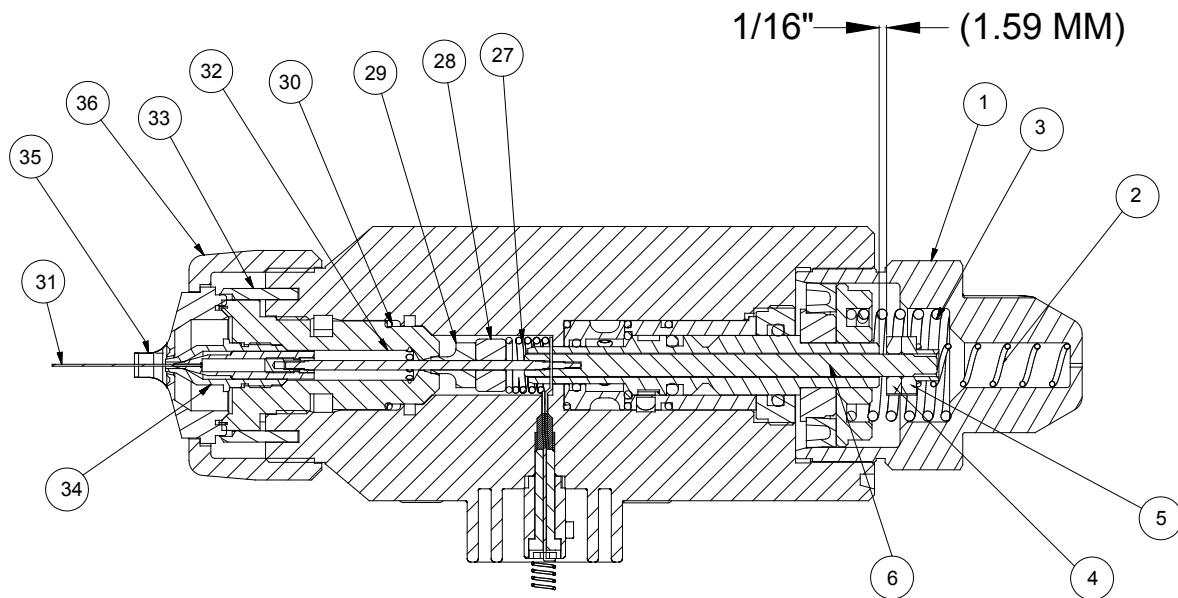

Figure 13b: Spray Head Assembly
SPRAY HEAD ASSEMBLY - PARTS LIST (Figure 13b)
3. Inspect the metal portion of the rear needle [6] for excessive wear. If wear is observed (longitudinal grooves or a noticeable reduction in diameter) replace the needle. Remove the two (2) lock nuts from the rear needle and save. When ever replacing rear needle section, you must also replace the seal [29] at the same time.
7. Insert the lubricated o-ring [30] into the applicator head. Gently push, with a small flat object, down upon its seating edge. Be careful not to push o-rings into fluid groove (see Figure 13b).
11. Reinstall the two (2) lock nuts [4] and [5] in the correct order on the back needle as shown making sure to maintain an 1/16" clearance (see Figure 13b).